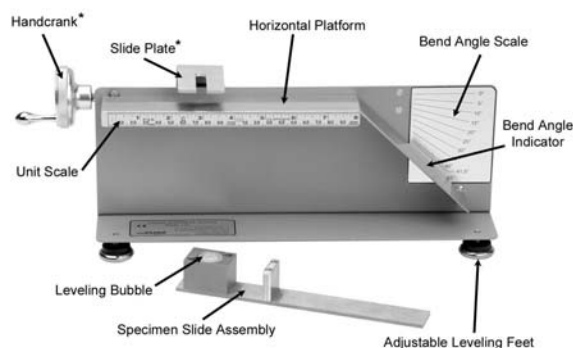

Figure 2
- OPTIONAL: Precision hand crank speed control advances a screw-driven slide, offering an economical solution for controlling the rate of sliding (see Figure 2) [reference part number 980112-1].